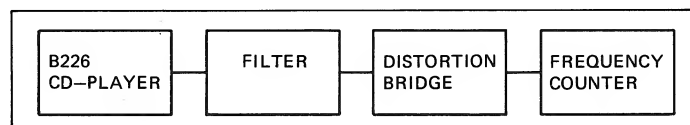

Fig. 4.17
-> Fig. 4.17
- Measuring circuit according to Fig. 4.17 with distortion measurement filter on the VARIABLE OUTPUT [2].